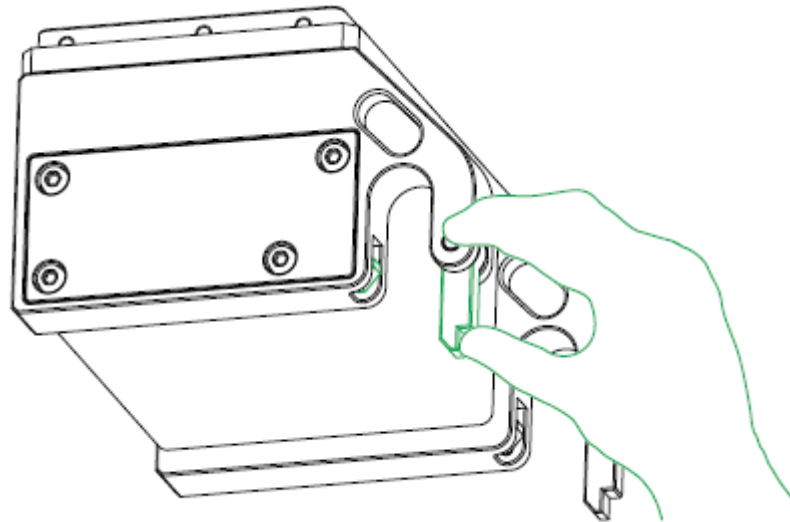

Figure 4-3
Step 1 Hang the object onto latch fastener, and press the latch fastener upwards, as shown in Figure 4-3.